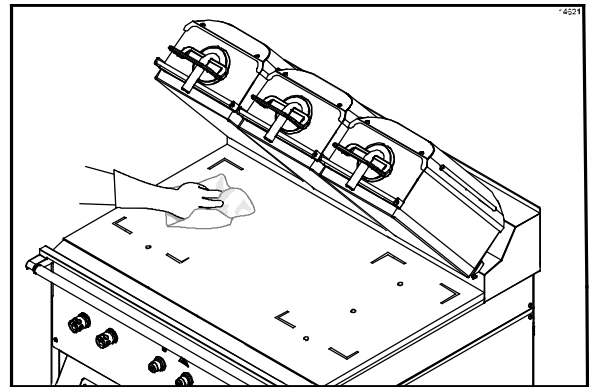

Figure 63
37. Rinse the lower grill surface with a clean, sanitizer-soaked grill cloth. (See Figure 63.)